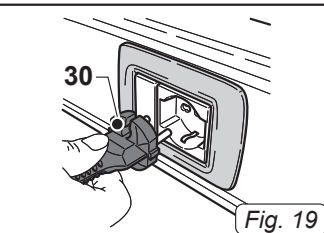

Fig. 19
- Insert the plug (30 Fig.19) into the socket.